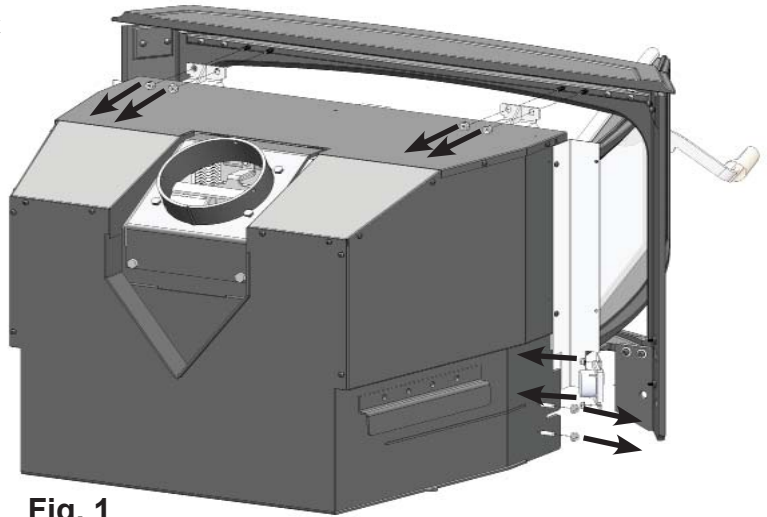

Fig. 1
1. Disconnect the two rheostat wires from the front cast assembly. Open the loading door. Remove eight 1/4-20 nuts from top brackets and side posts with a 7/16" wrench. Remove two 10-24 nuts from analog cat therm using a 3/8" wrench. Slide the cast assembly away from firebox and set aside. Position firebox in front of fireplace opening (**Fig. 1**). To re-attach the front cast assembly simply reverse these steps.